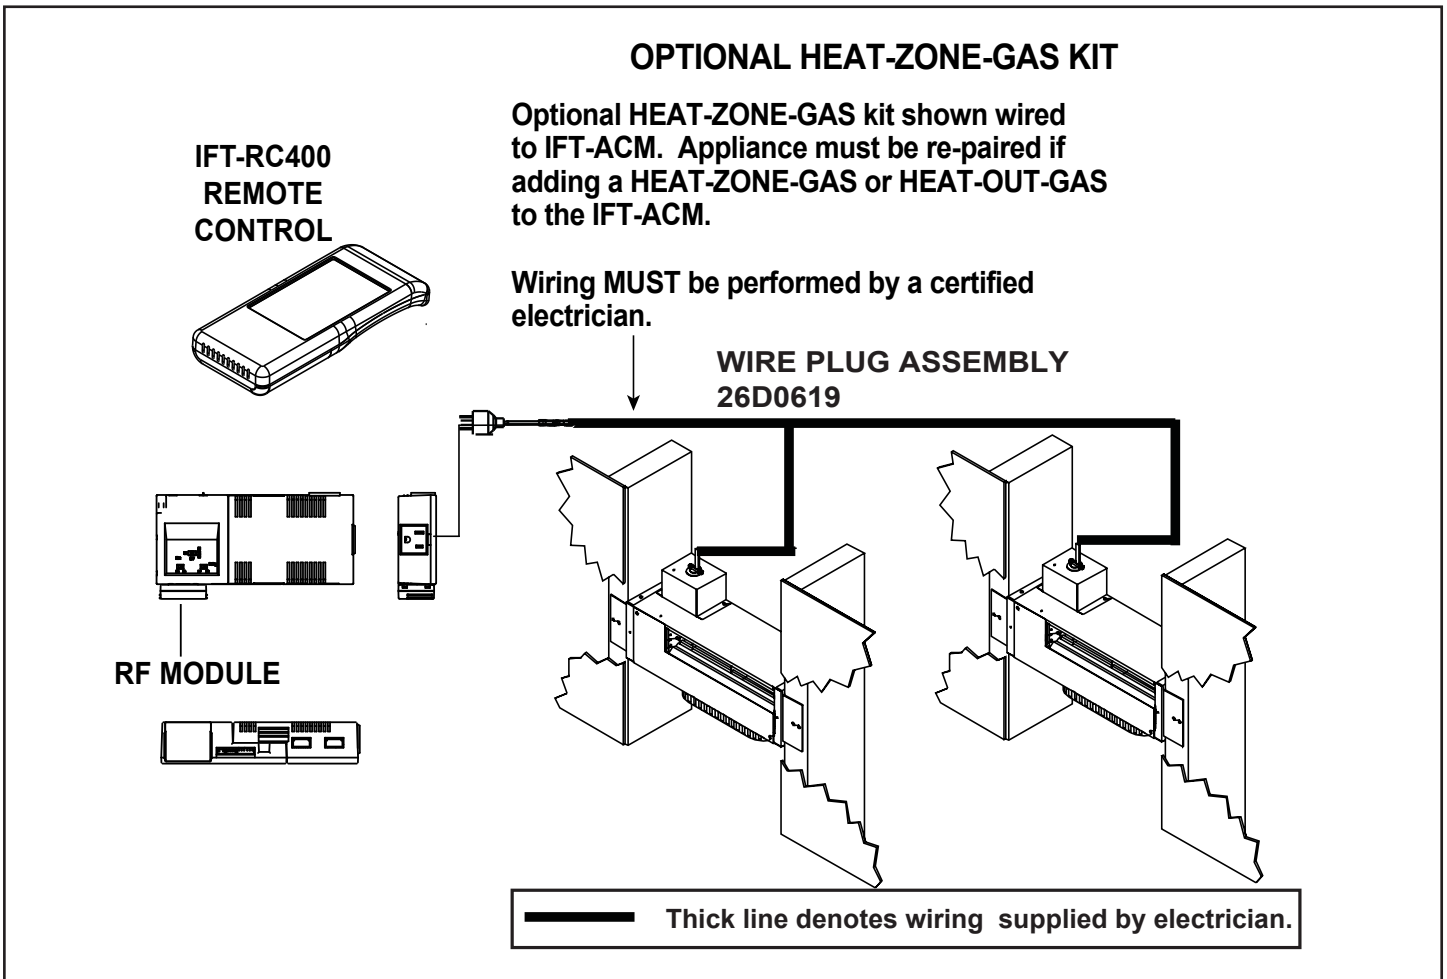

Figure 7 IntelliFire Touch Controls
14. Using a standard 120 volt plug-in, wire the ends of the wires from the blower junction box (or junction boxes if two Heat-Zone-Gas kits will be installed) to the plug-in inside the appliance. See Figure 7.